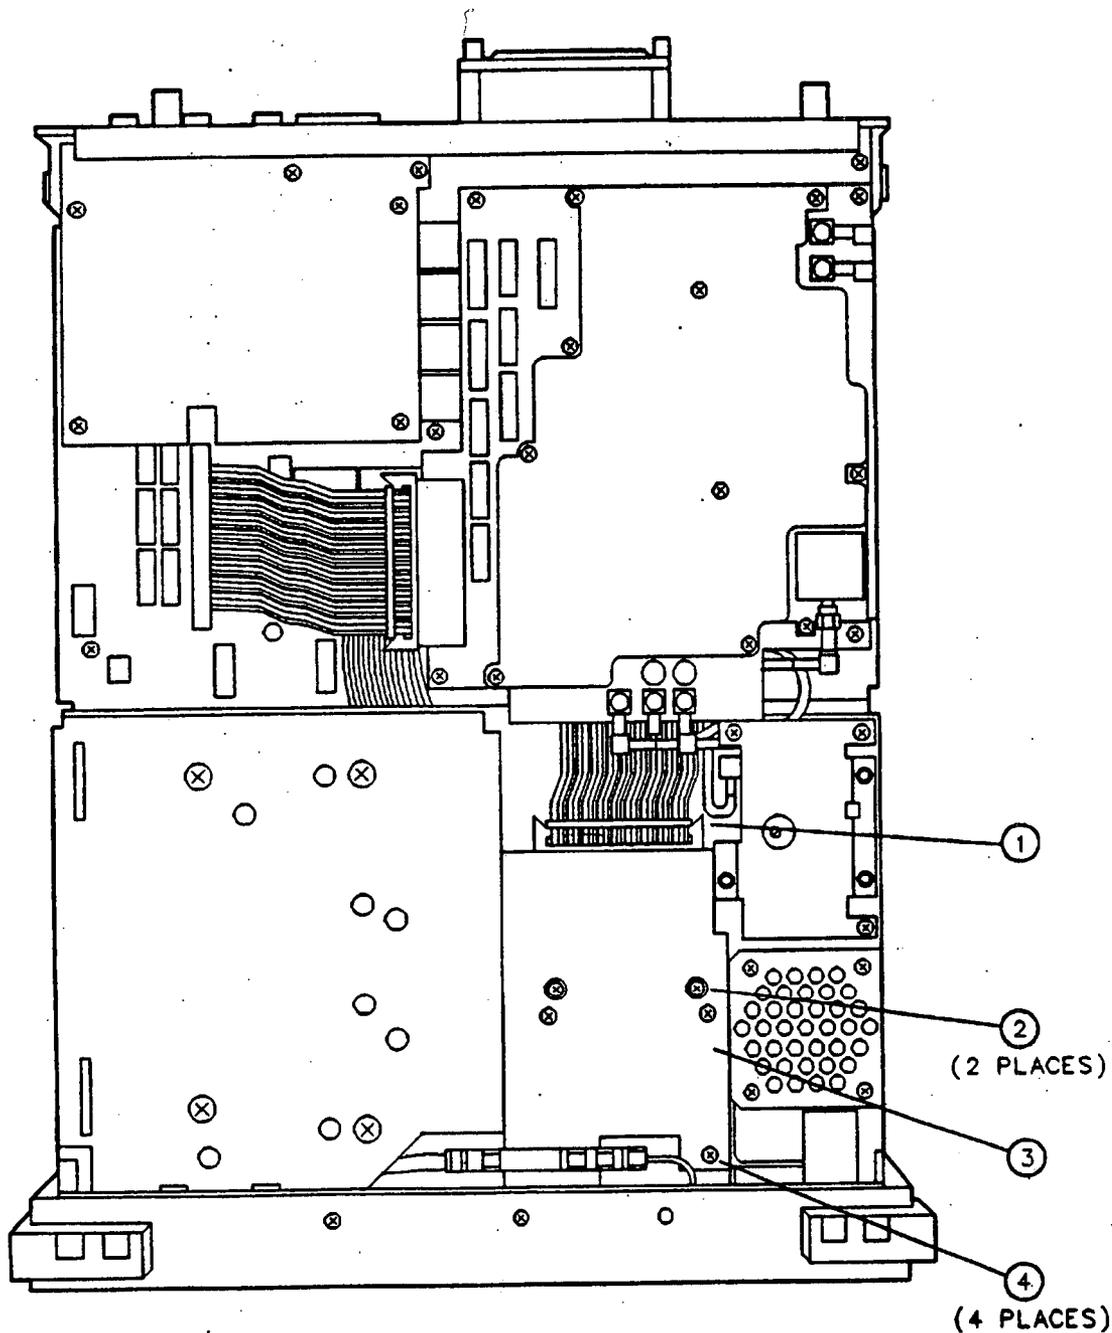

Figure 3-36. A17 Memory Card Reader Replacement
3. Disconnect the W14 ribbon cable (1) from the A17 Memory Card Reader assembly. See Figure 3-36.
4. Remove the two screws (2) that secure the A17 assembly to the chassis.